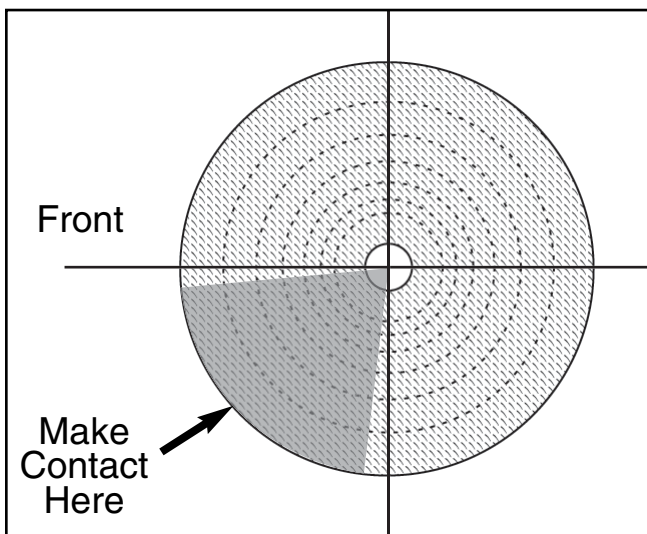

Figure 4. Illustrated from a side profile, shows the only portion of the wheel that should be used during buffing.
- Only use the area grayed-out in **Figure 4** to do the actual buffing. Contacting the workpiece on areas outside of the grayed out area may flip the workpiece out of your hands.